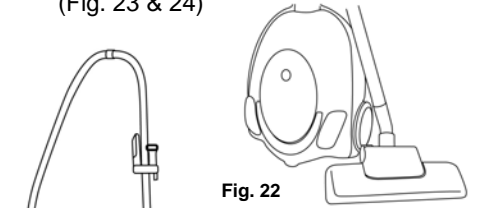

Fig. 22
1. For vertical parking, place the main unit in the upright position as shown in Fig. 22.